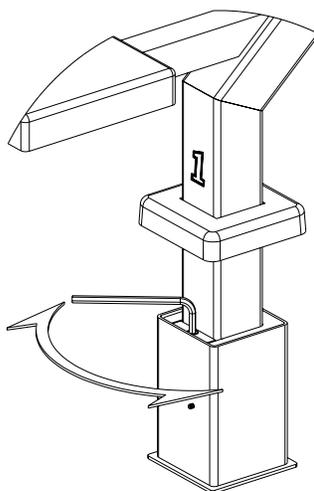

FIGURE 6
1. Loosen bolt using a $\frac{1}{4}$ " ALLEN wrench, turning wrench in a counter-clockwise direction as seen from looking down. See **FIGURE 6**.